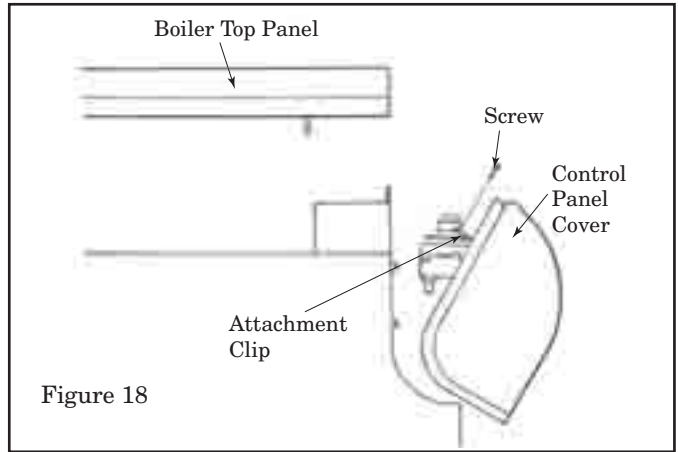

Figure 18
2. Remove the top panel by lifting upwards. Four pins, one located in each corner of the top, hold the top panel in place. See Figure 18.
3. Open the control panel and remove two screws that are through attachment clips. See Figure 18.